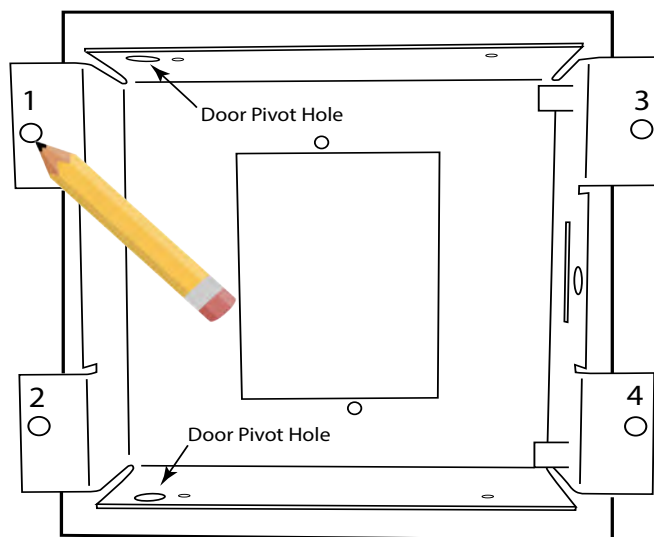

Fig. 2 Shows back panel centered in wall opening.
Step 2: After cutting hole in wall, place the Back Panel into the hole, centered side to side and top to bottom and mark the four holes in the panel with a pencil. See Fig. 2.